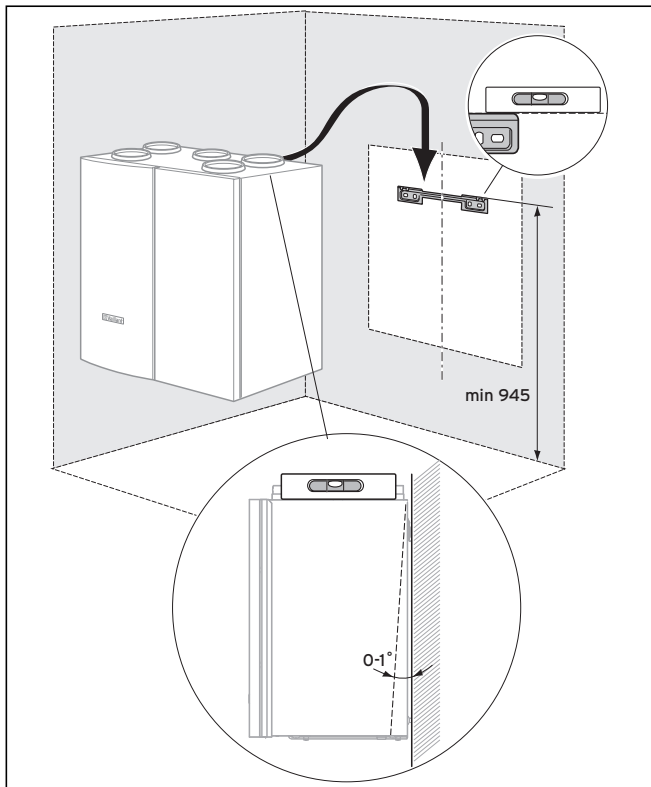

Fig. 4.6 Assembly of the fixing brackets
- The condensation water drain must be connected to a drain outlet with a siphon (see figure 4.6).